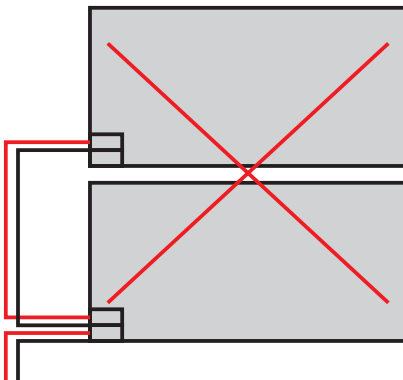

Figure 3.
**The example of parallel connection shown below is strictly prohibited.(see Figure 3.)**